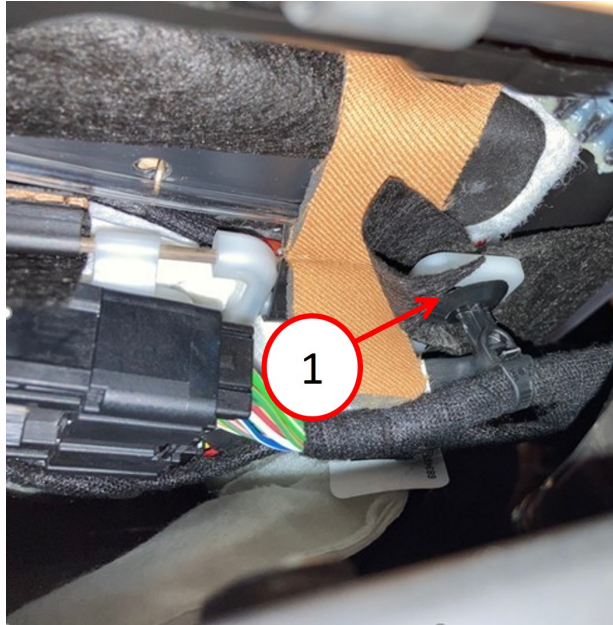

Fig. 4
7. Remove the oblong push fastener from the suspension mat (Fig. 4) .
9. Install the oblong push fastener on the suspension mat (Fig. 4) .